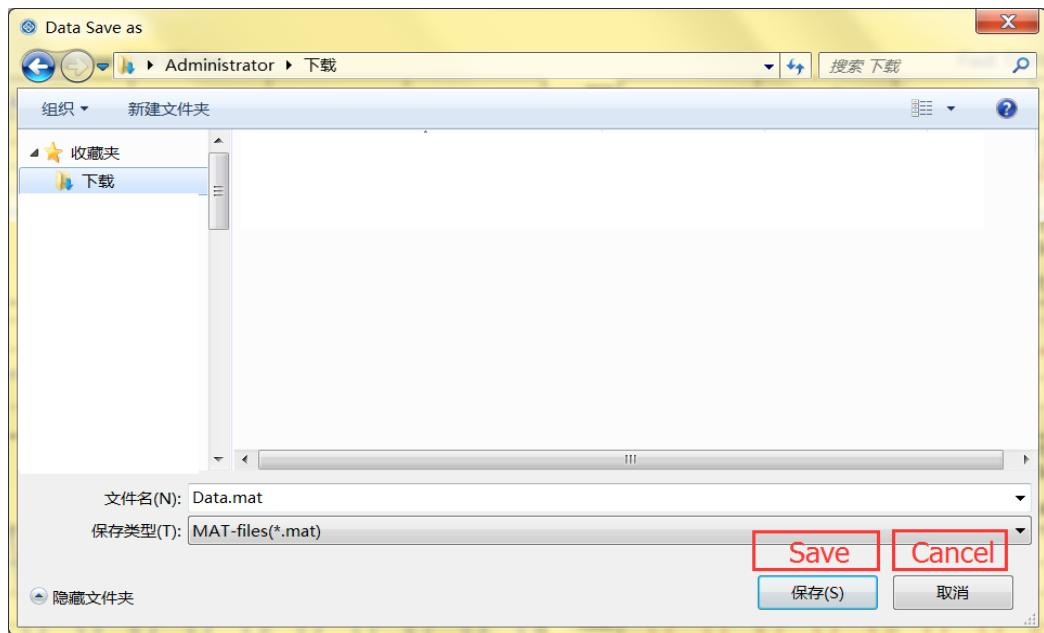

Fig. 49 Save simulation data
⑥ Save the simulation data as shown in Fig. 49.
⑨Click ‘save data’, save the simulation data, and custom save location, as shown in Fig. 49.